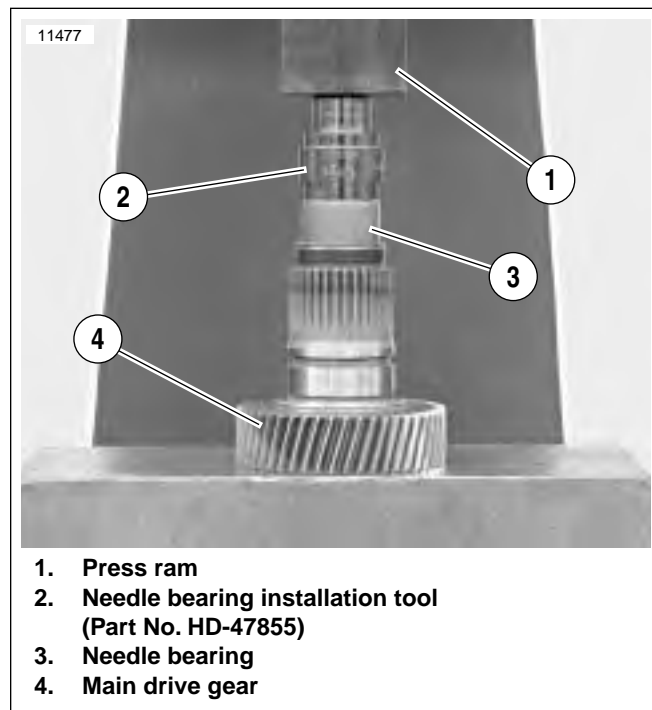

Figure 6-72. Pressing Outer Needle Bearing Assembly into Main Drive Gear
- e. See Figure 6-72. Place main drive gear (4) on press bed with gear end facing down.
- f. Place needle bearing (3) squarely into end of drive gear. Insert installation tool (2) with end stamped "OUTER" facing needle bearing.